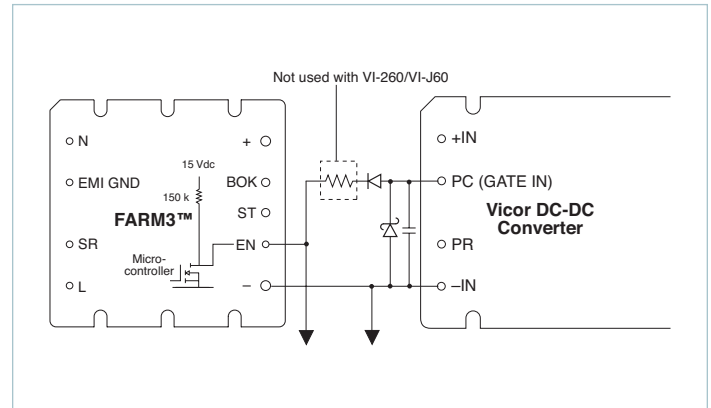

Figure 9.11 — Enable (EN) function
**Strap (ST) Pin:** In addition to input and output power pin connections, it is necessary to connect the Strap pin to the center junction of the series hold-up capacitors (C1, C2) for proper (autoranging) operation. Varistors V1 and V2 provide capacitor protection. The bleeder resistors (R1, R2) discharge the hold-up capacitors when power is switched off. Capacitors C7 and C8 are recommended if the hold-up capacitors are located more than 3in [75mm] from the output pins.
**Enable (EN) Pin:** The Enable pin must be connected to the PC pin of all converter modules to disable the converters during power up. Otherwise, the converters would attempt to start while the hold-up capacitors are being charged through the current limiting thermistor, preventing the bus voltage from reaching the thermistor bypass threshold, thus disabling the power supply. The Enable output (the drain of an N-channel MOSFET) is internally pulled up to 15V through a 150kΩ resistor. (Figure 9.11)